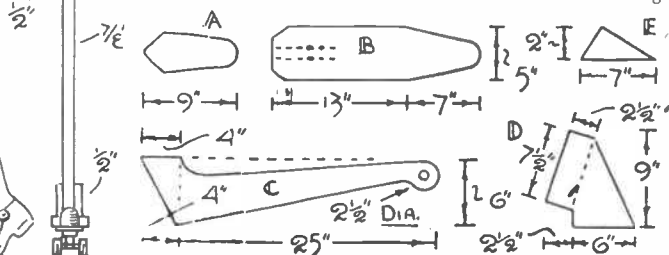

Fig. 2—Size and shape of the various parts to make
The shape of the column is shown at Fig. 2 (C). It is cut out with the aid of a padsaw or keyhole saw, plus a panel saw. The handle hole is $\frac{1}{2}$ in. in diameter.
The running board (B) at Fig. 2 is cut from $\frac{1}{2}$ in. wood as shown. Like the front foot part, the rear end is made to fit the heel of the skate neatly. When cut out trim with plane and spokeshave, then glasspaper smooth.